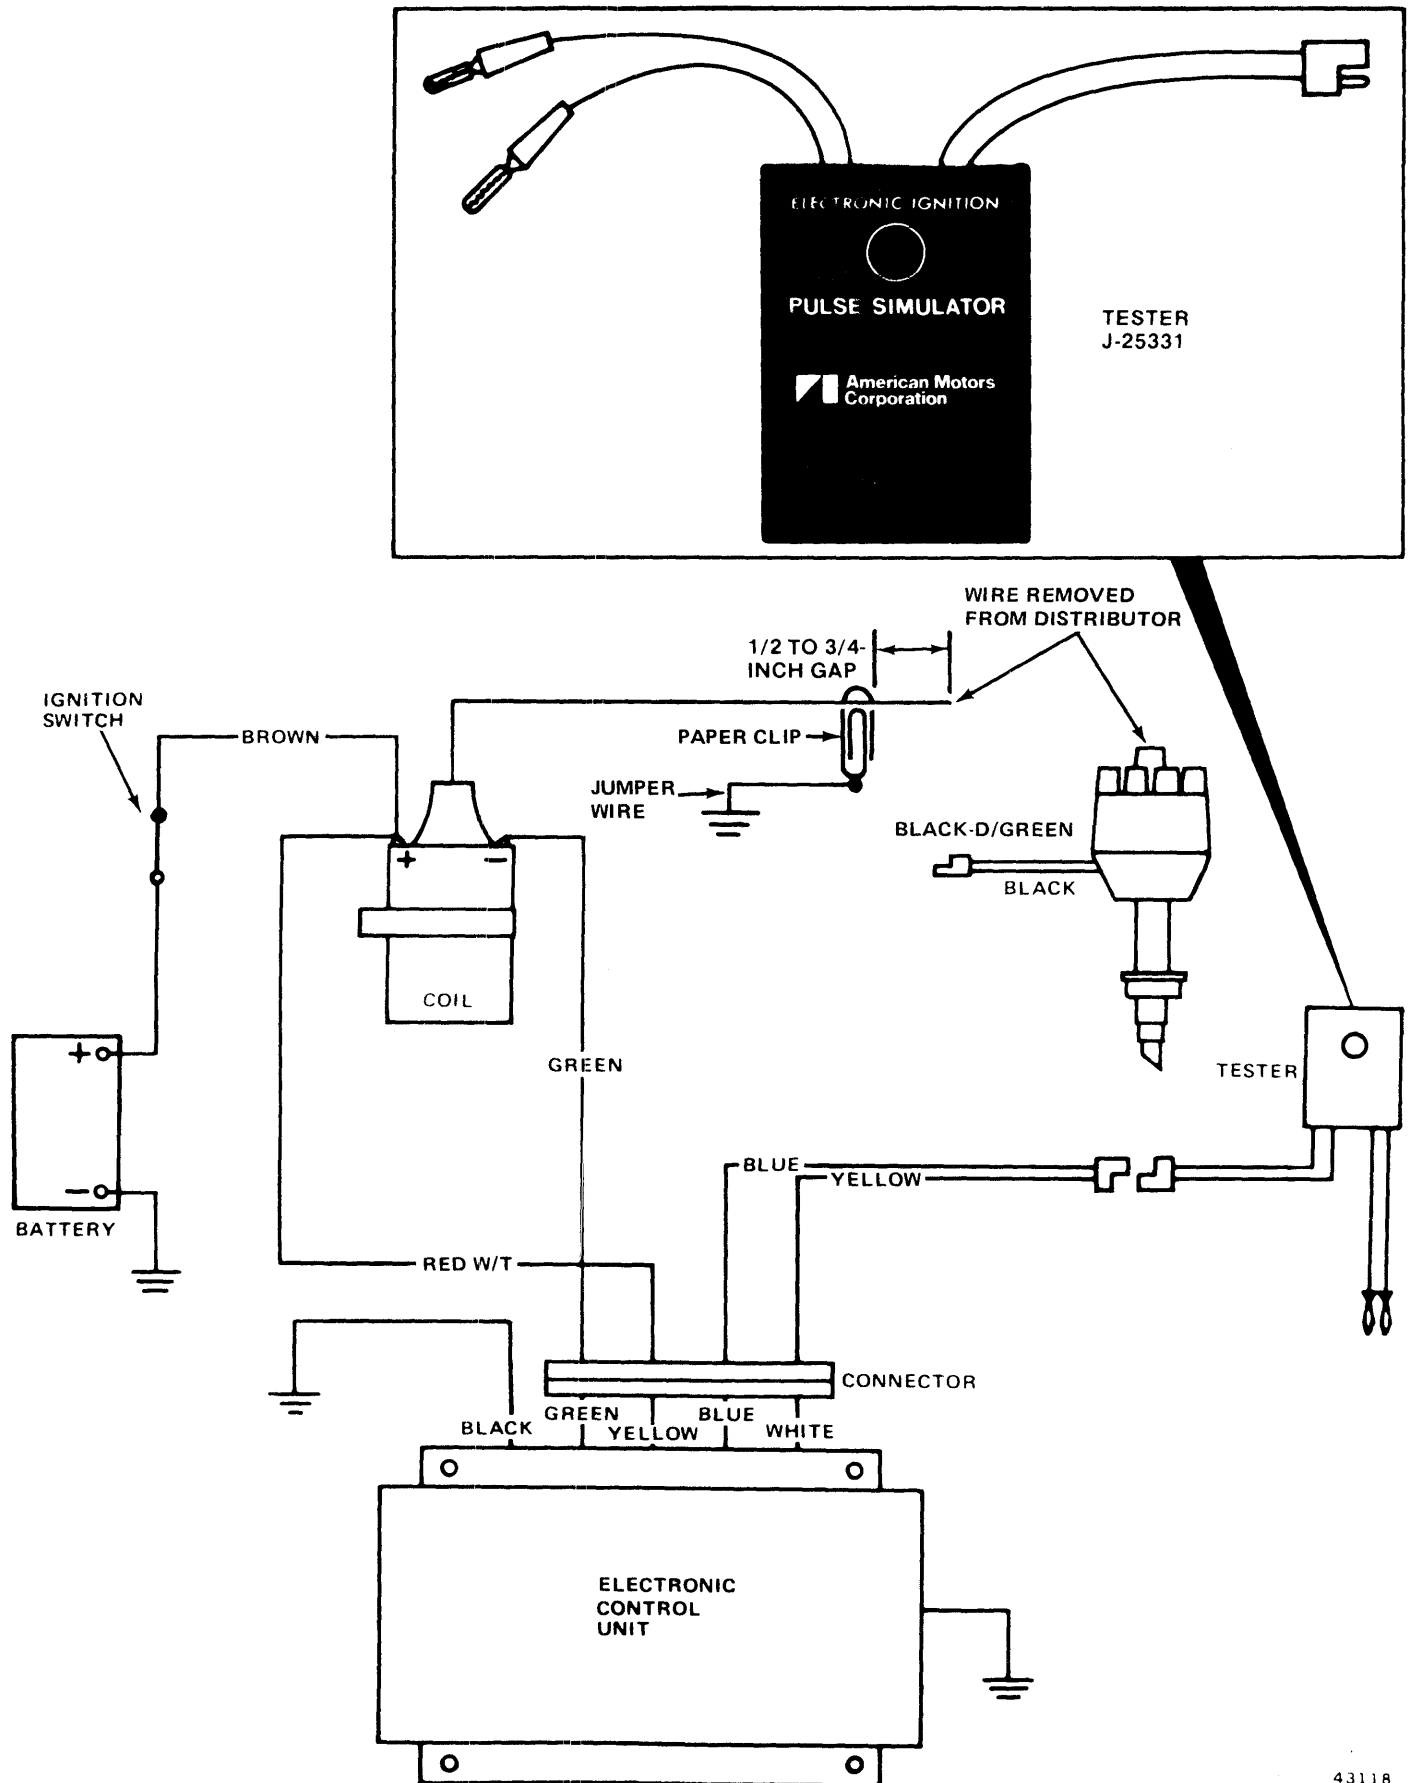

Fig. 3-51 Tester Connected in System
(8) Apply a light coat of General Electric Silicone Dielectric Compound G-623 (Jeep—8127445) or equivalent to all surfaces of male terminals. Fill female terminal cavities 1/4 full with Dielectric Compound.
(9) Connect distributor primary wires to control unit connector and crank engine. Observe for spark between paper clip and ignition cable terminal. If spark now jumps the gap, the ignition system is satisfactory. If no spark occurs between paper clip and cable terminal, proceed to step (10).
(10) Plug Tester J-25331 into wire harness as shown in figure 3-51. Turn ignition switch ON. Cycle test button and observe for spark between paper clip and ignition cable terminal. If spark occurs now but did not occur with distributor connected, distributor sensor unit is faulty and must be replaced. If no spark occurs, proceed to step (11).